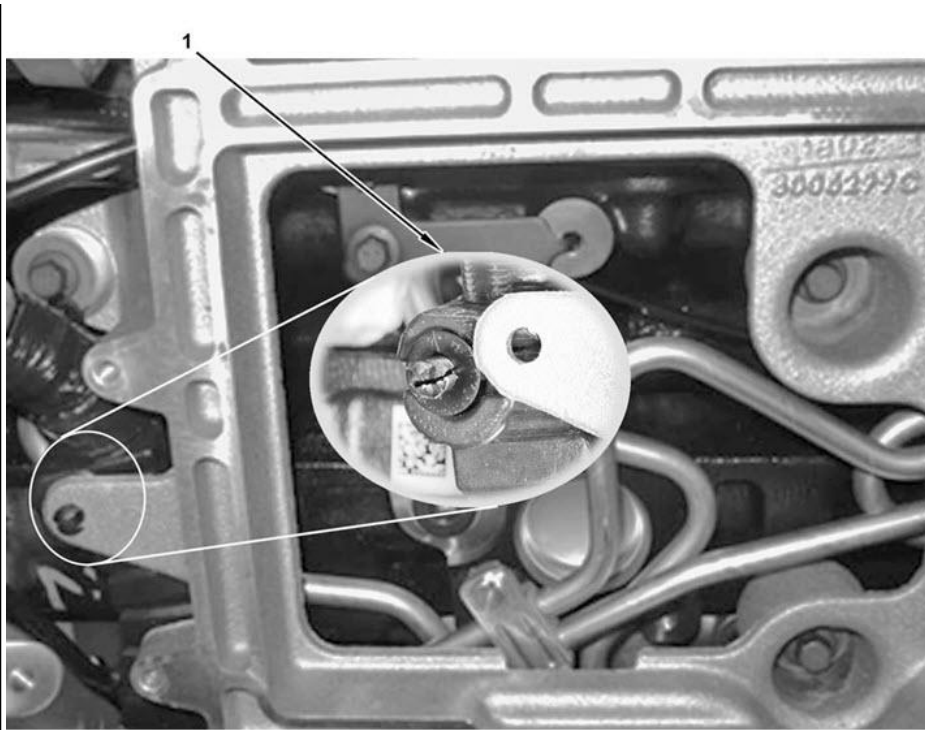

**Figure 9 - ECM Bracket**
1. Fir-tree push pin connector (2).
12. Remove three bolts that secure ECM bracket to engine (do not lose vibration isolators) (Figure 9, Item 1).